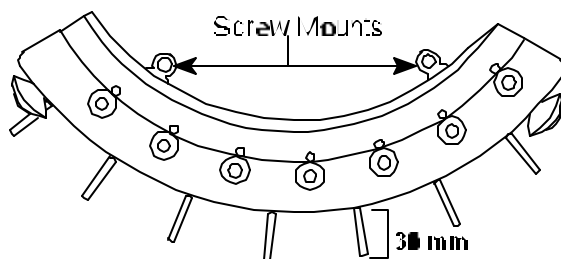

Figure 4
- Using a Flathead Screwdriver, **loosen** and **remove** two set screws that secures the Thread Apron to Turret Plate. See *Figure 4*.